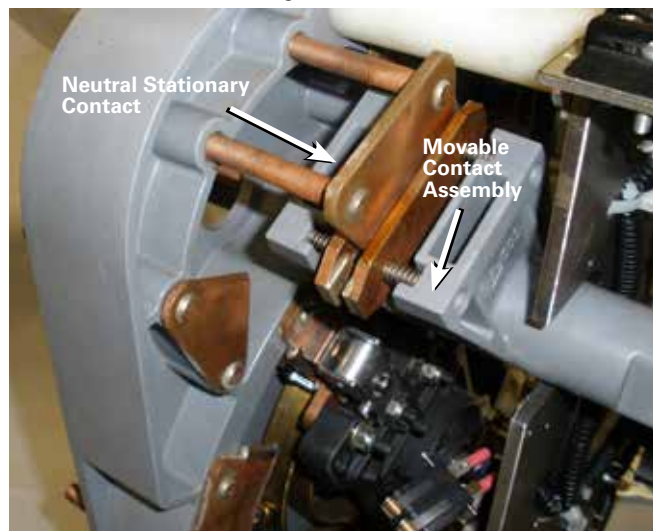

Figure 42. Engaging contacts.
15. Continue to reposition the screwdriver, separate the button contacts and rotate the reversing movable contact assembly until the middle button contact is fully engaged in the center of the reversing stationary contact blade. See Figure 42.